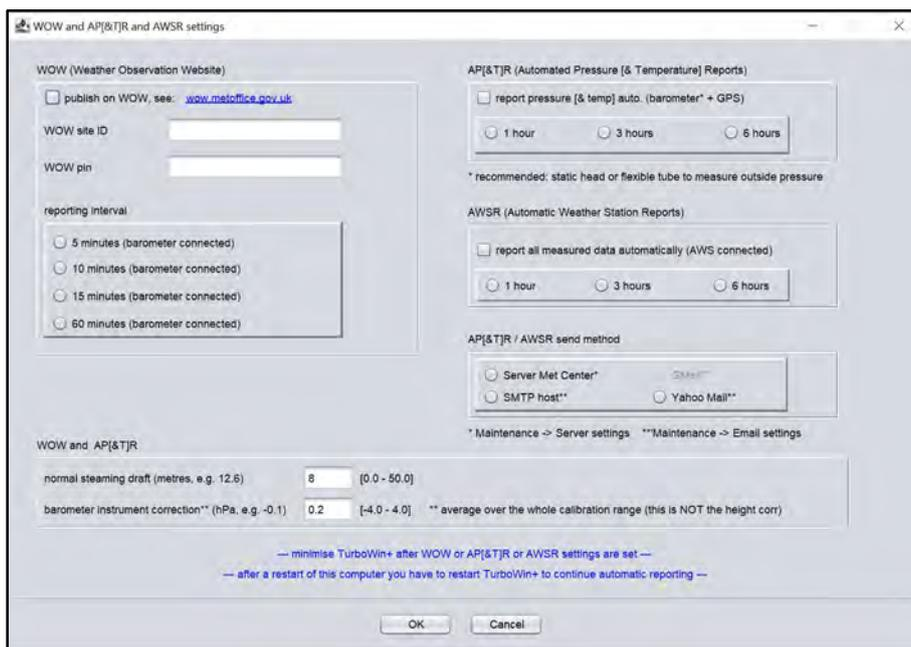

Figure 7: Automated reporting configuration settings
- The settings window will open (Figure 7) to allow you to select your preferred reporting type, reporting interval and output method.